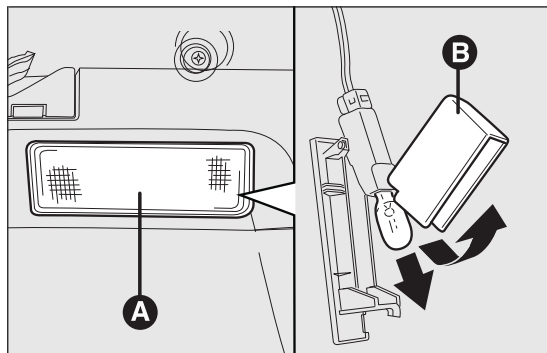

fig. 167
- ❑ remove the light A fig. 167 levering in the point shown by the arrow;